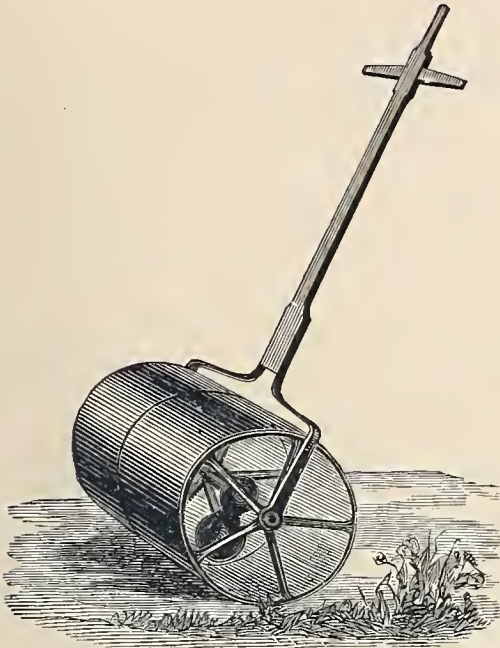

Fig. 342.—Garden and Lawn Roller.
*The Garden and Lawn Roller*, represented by *Fig. 342*, is a useful implement for rolling lawns, walks, and driveways, and beds after planting. To the arbor inside the cylinders are attached counterbalances, which add weight to the implement, and cause the handle to stand perpendicular when not in use. As with the FIELD-ROLLER, this roller is made in sections, and of the following sizes:—